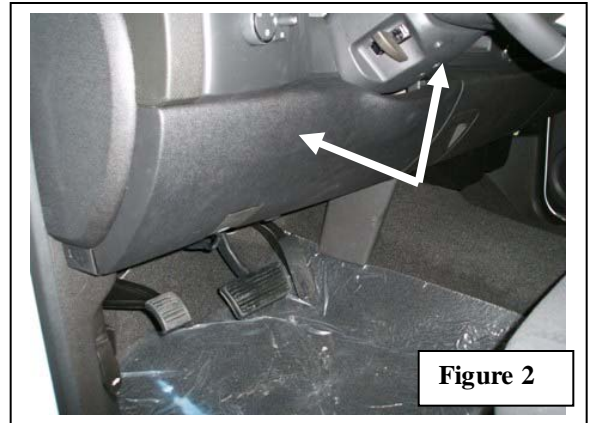

Figure 2
2.  Remove the driver side lower dash panel. Remove the steering wheel shroud. **Figure 2**